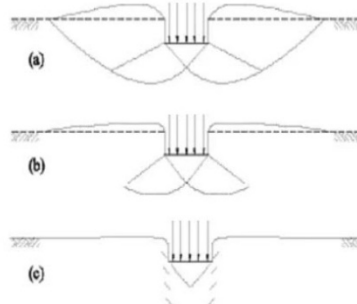

Fig.1: Shear failure in foundation soil
1. General shear failure (Fig.1(a))
2. Local shear failure (Fig.1(b))
3. Punching shear failure (Fig.1(c))